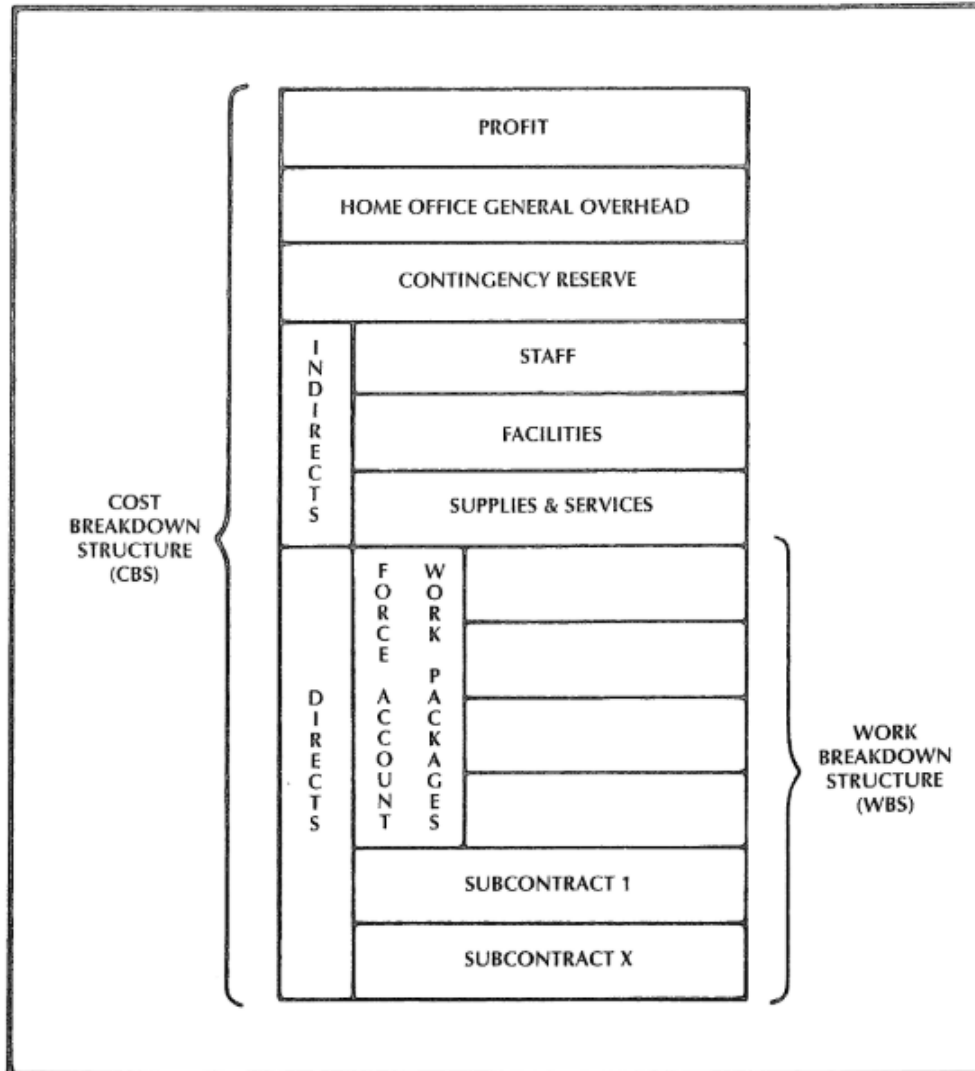

Figure 3. Construction CBS and WBS
- ❑ Figure 3 illustrates it for a **construction contractor**, and
Figure 3 illustrates it for a **construction contractor**, and